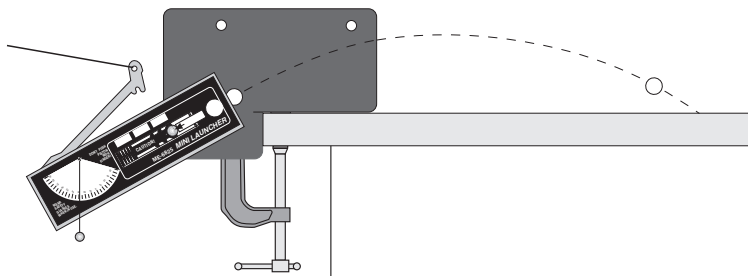

Figure 8.1: Setup to shoot on level surface
- ① Clamp the Mini Launcher near one end of a sturdy table with the Launcher aimed so the ball will land on the table. See Figure 8.1.
- ② Adjust the angle of the Mini Launcher to 30 degrees.
- ③ Put the steel ball into the Mini Launcher and cock it to the medium or long range position.